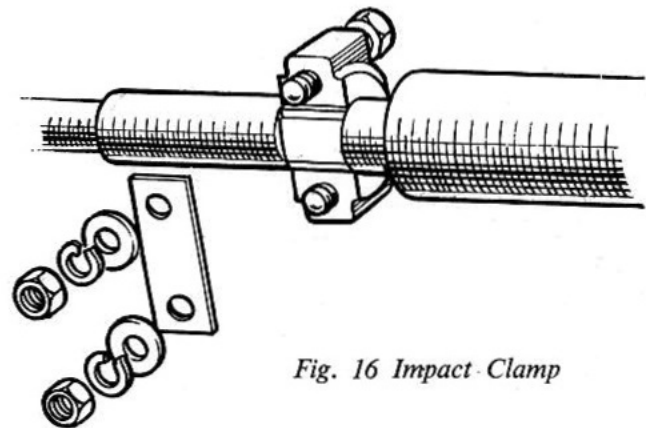

Fig. 16 Impact Clamp
4. Remove the retaining screw and each switch (items 10 and 17).
5. Remove the impact clamp nuts, spring washers, plain washers, spring steel plate, bolts and "U" piece (Fig. 16).